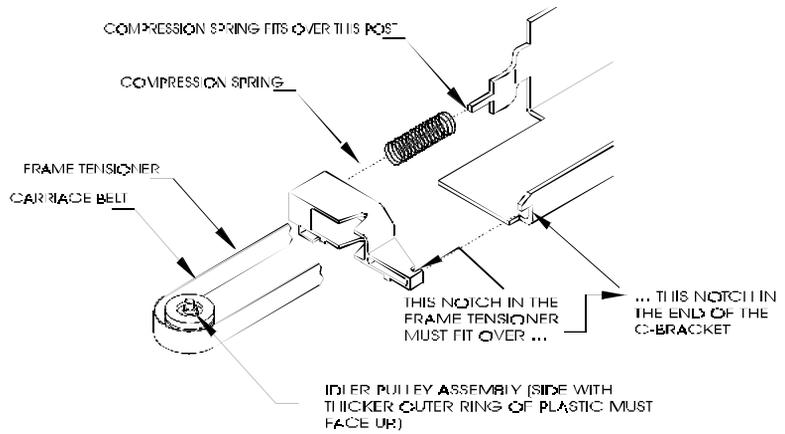

Figure 5-13. Frame Tensioner.
8. Push the Carriage Belt through the Frame Tensioner enough to remove the Idler Pulley Assembly from the Frame Tensioner, and then set aside the Idler Pulley Assembly and the Frame Tensioner. See Figure 5-13.
7. Insert the Strain Relief (with Trailing Cable) onto the Carriage Assembly by sliding it onto the Strain Relief Support until it snaps firmly into place. See Figure 5-13.
12. Holding the Carriage Belt and Frame Tensioner, insert the Idler Pulley Assembly into the loop of the belt. Make sure that the side of the Idler Pulley Assembly with the thicker outer ring of plastic is facing up. See Figure 5-13.